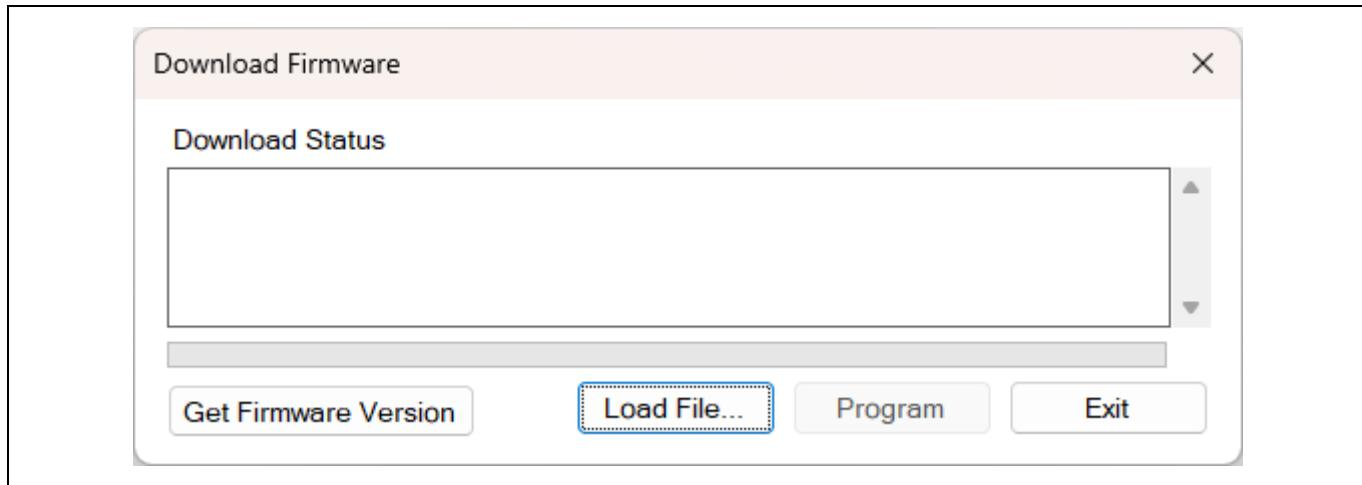
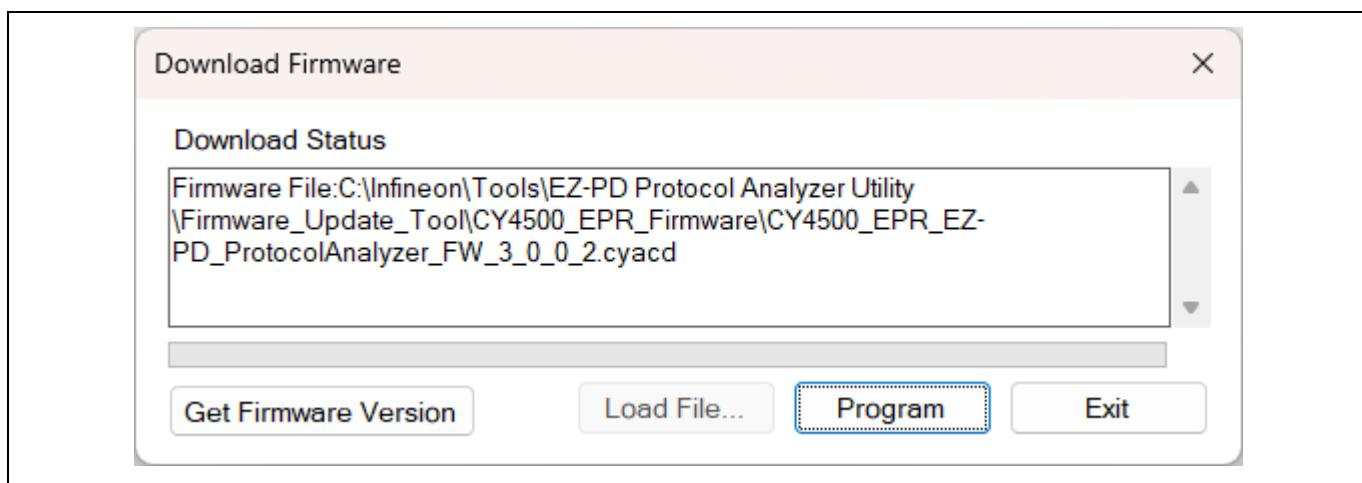

Figure 16 “Download Firmware” window
Figure 17 Selecting the CY4500-EPR firmware file
5. Upon executing step 4, the **Download Firmware** window opens as shown in Figure 16. The device enters the bootloader mode by default.
6. Click **Load File...** as shown in Figure 16 and select the CY4500-EPR firmware file in .cyacd format as shown in Figure 17. Click **Open**. The binary file provided with the analyzer is available at the following location: